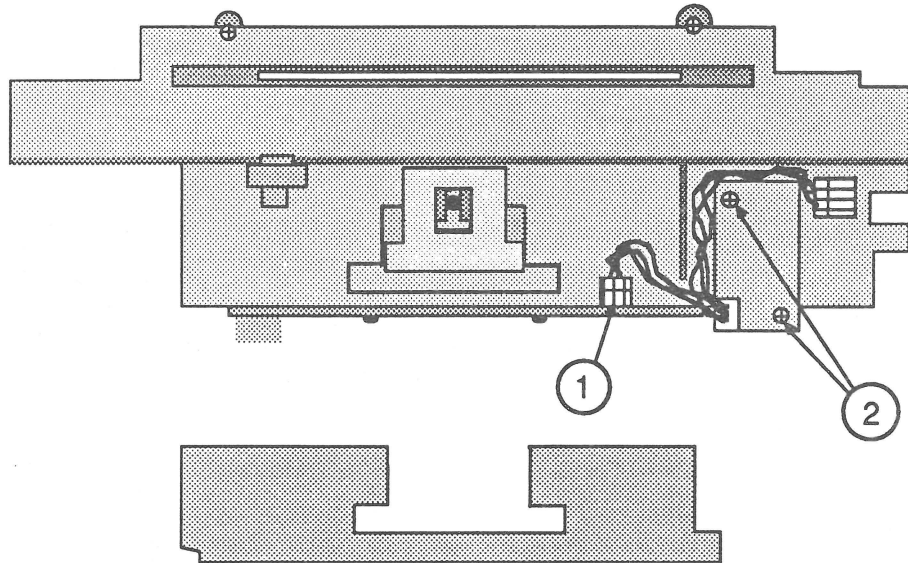

FIGURE 18
6. Unplug connector CN1 (Figure 18, #1) from the CCD PCB.
7. Unscrew the two screws (Figure 18, #2) that hold the inverter assembly. As you remove the last screw, the inverter assembly will come off.
1. Install the new inverter assembly and secure it with the two top screws (Figure 18, #2).
2. Plug the connector into connector socket CN1 (Figure 18, #1) on the CCD PCB.